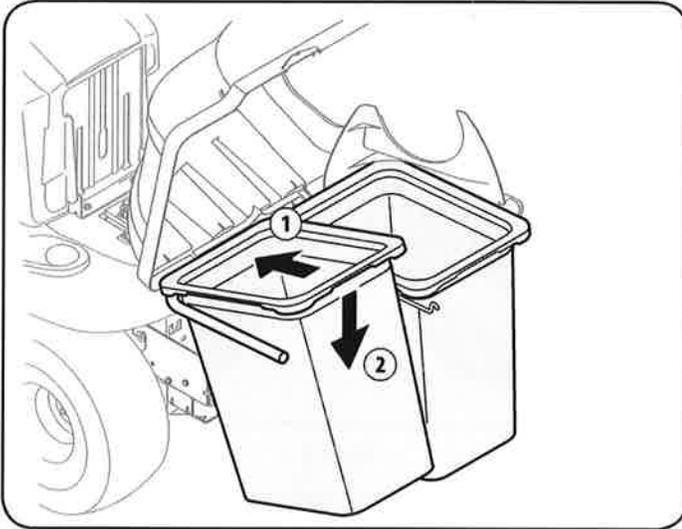

Figure 17
7. Install both grass bags onto the bag support assembly by inserting the front edge in first (1), as seen in Figure 17, and setting the back edge down (2) until it fits into the assembly.